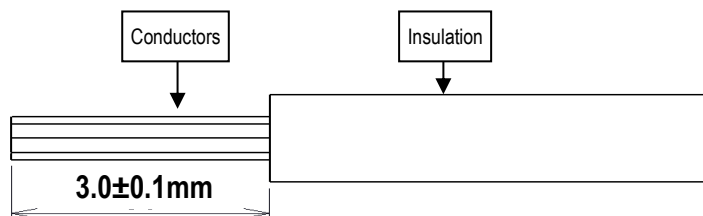

Fig 1. Wire strip
- ① Strip the insulation off by $3.0 \pm 0.1\text{mm}$ (see Fig.1)